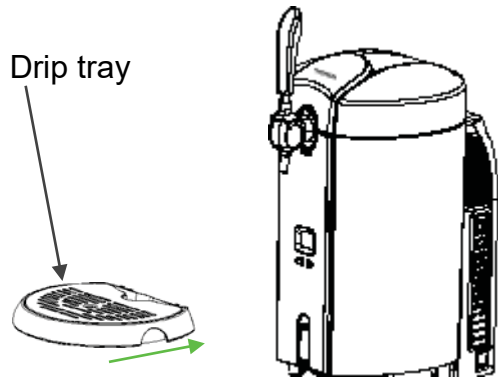

Figure 4
3. Install the drip tray into the notch provided. (Figure 4)